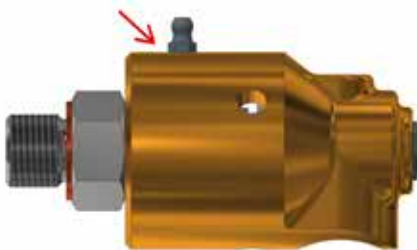

Fig. 12
- If the union has a lubrication nipple (see figure 12), relubricate.